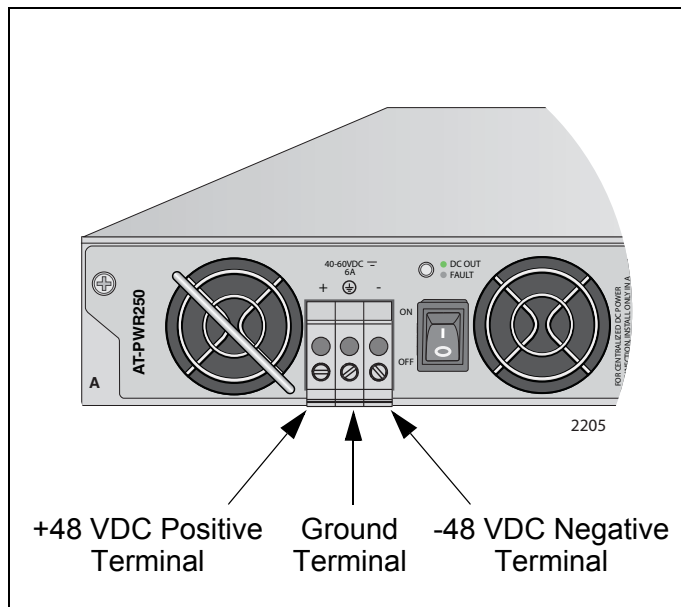

Figure 54. DC Terminal Block on the DC AT-PWR250 Power Supply Module
3. Use the legend above the terminal block to identify the terminals. The terminals are **positive**, **power supply ground** and **negative**, from left to right, as shown in Figure 54 on page 96.